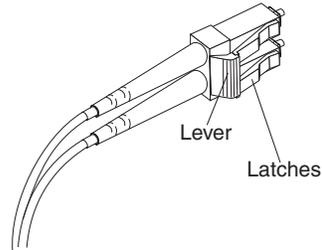

Figure 38. LC-LS fibre channel cable lever and latches
1. On the end of the cable that connects into the LC connector end of the LC-SC cable adapter, press down and hold the lever to release the latches. Figure 38 shows the location of the lever and latches.